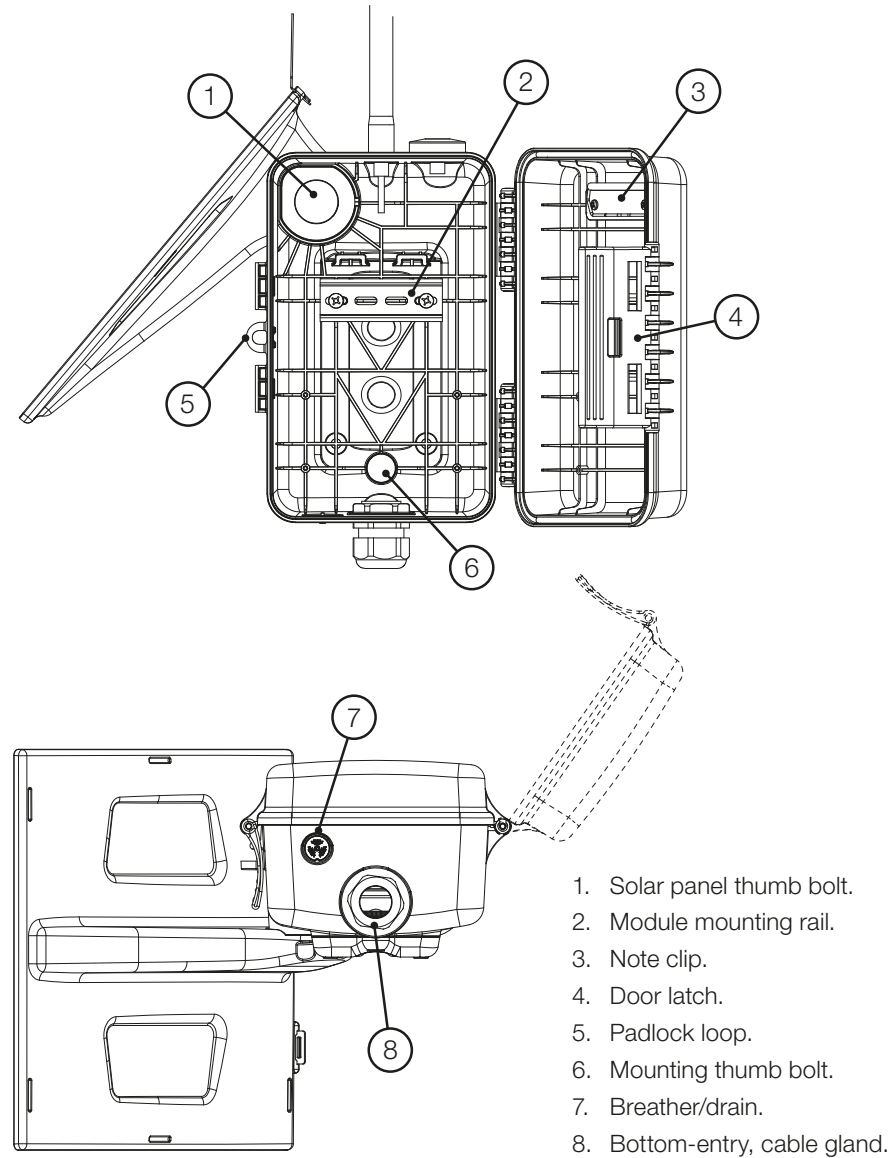
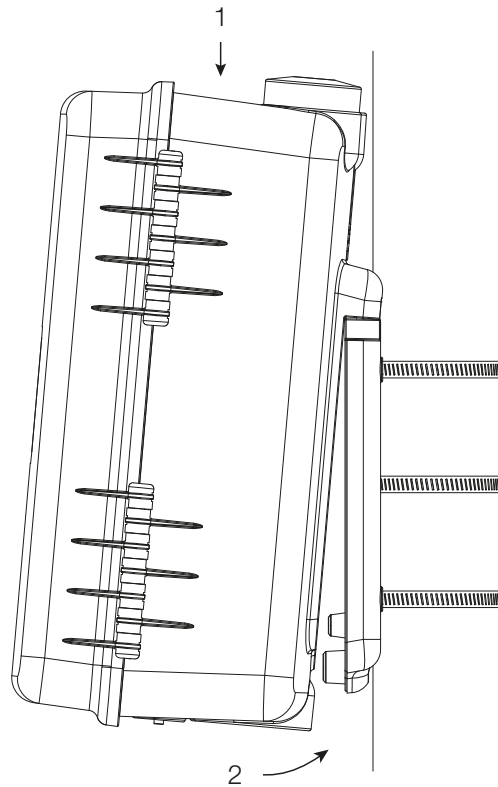

Figure 4. Solar Enclosure Inner Components
Figure 9. Installing Enclosure on Mounting Bracket
- IP rating: 56 (Pest-proof drainage vent, (Figure 4, Item 7)).
- Easily removable from mounting bracket via single thumb-bolt (Figure 4, Item 6).
- Integrated, adjustable, solar-panel mount (Figure 4, Item 1).
- Single, bottom-entry, M32 gland suitable for electrical conduit with diameters up to 1" (25 mm) - (Figure 4, Item 8).
- Remove the Solar Enclosure from packaging and assemble to mount via tabs. The enclosure need not be held in place once on the mount (Figure 9, follow sequence 1-2).
- Place the enclosure on the mount (Figure 9) and secure using the small thumb bolt and washer supplied in the hardware pack (Figure 4, Item 6).
- Rotate the solar panel to the desired angle (see Appendix A3). Lock in place by tightening the large thumb screw (Figure 4, Item 1).
- Install the large, M32 cable gland (supplied in the hardware pack) into the bottom-entry hole with the seal on the outer surface of the enclosure. (Figure 4, Item 8).
- Place the enclosure on the mount (Figure 9), and secure using the small thumb bolt and washer supplied in the hardware pack (Figure 4, Item 6).
- Extend solar panel out to the desired angle (see appendix A3); lock in place by tightening large thumb screw (Figure 4, Item 1).